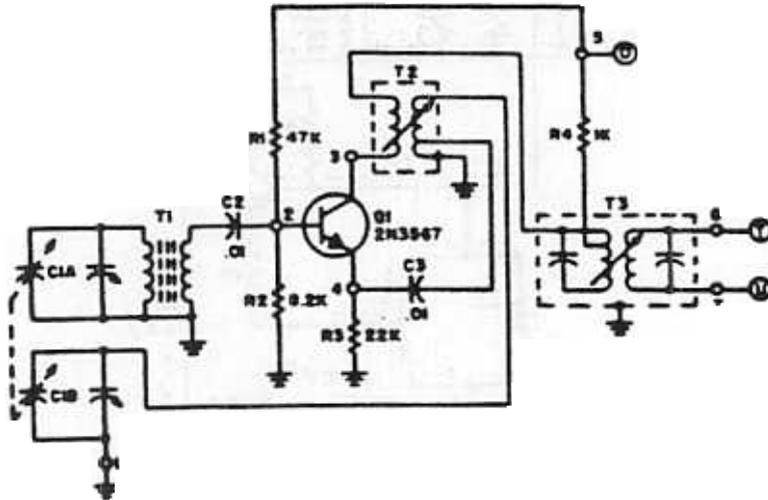

Fig 7
The mixer in this circuit is a semi-conductor diode (CR1). Both the incoming modulated RF coupled by T_1 and the local oscillator frequency coupled by C_4 to the cathode of CR_1 beat together in the non-linear rectifier producing a difference frequency which is the intermediate frequency (IF). This type of circuit is not used much because a diode mixing circuit lacks the ability to amplify. Therefore we will be using a single stage circuit called a converter in order to have the amplification needed for future circuits. As we discuss the converter circuits refer to figure 7.